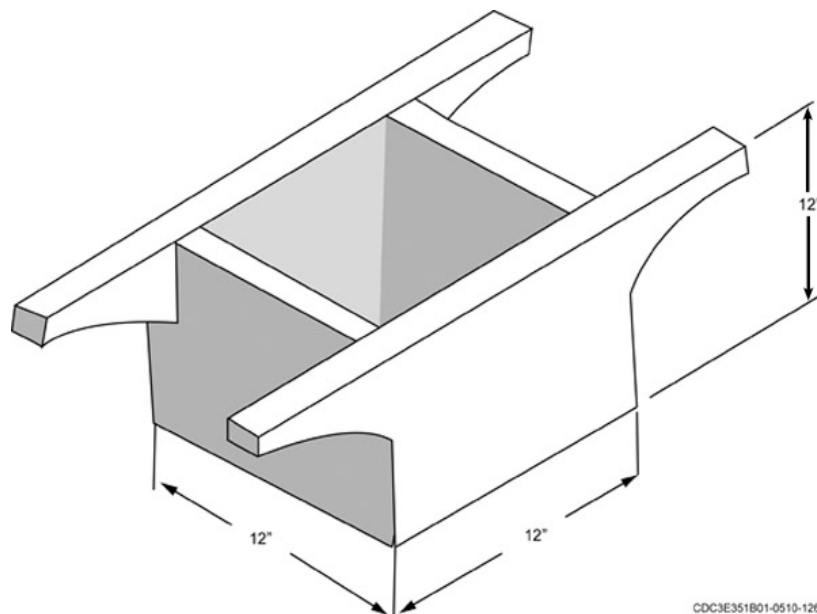

Figure 1-47. Measuring box.
- Metal-lined measuring box (fig. 1-47).